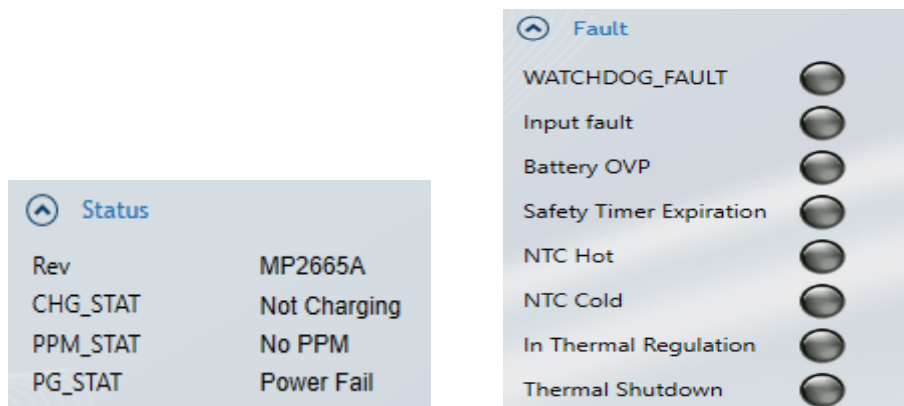

Figure 23: MP2665A Operation Status and Fault Report
19. Figure 23 shows the MP2665A's operation status and fault report.